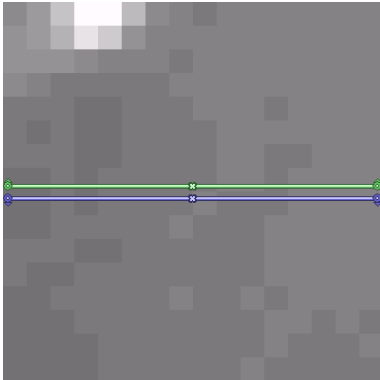

Figure 7.1
1. Temperature change detected (Figure 7.1).